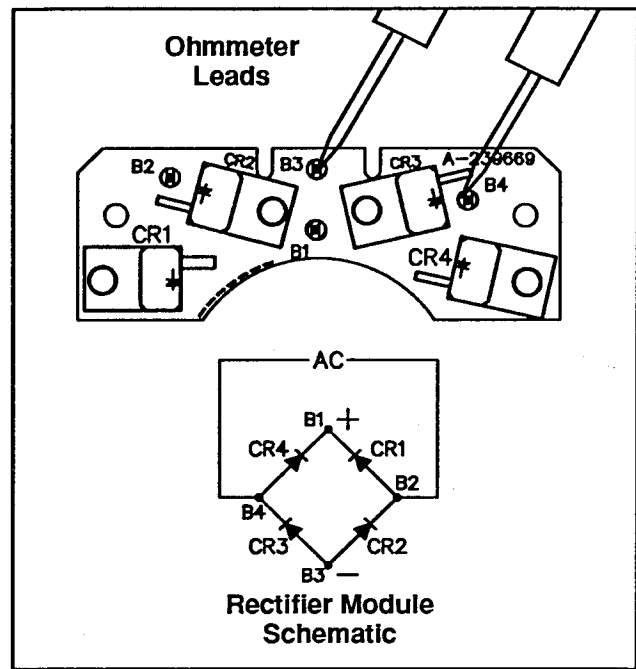

Figure 8-9. Testing Rectifier Module
2. Using an ohmmeter on the R x 100 scale, check resistance between rectifier diodes (as shown in Figure 8-9). To test CR3, for example, place ohmmeter leads on rectifier terminals B3 and B4. The ohmmeter should show a low resistance in one direction and, upon reversing ohmmeter leads, a high resistance in the other direction. Replace the rectifier module if any of the diodes tests different than described.